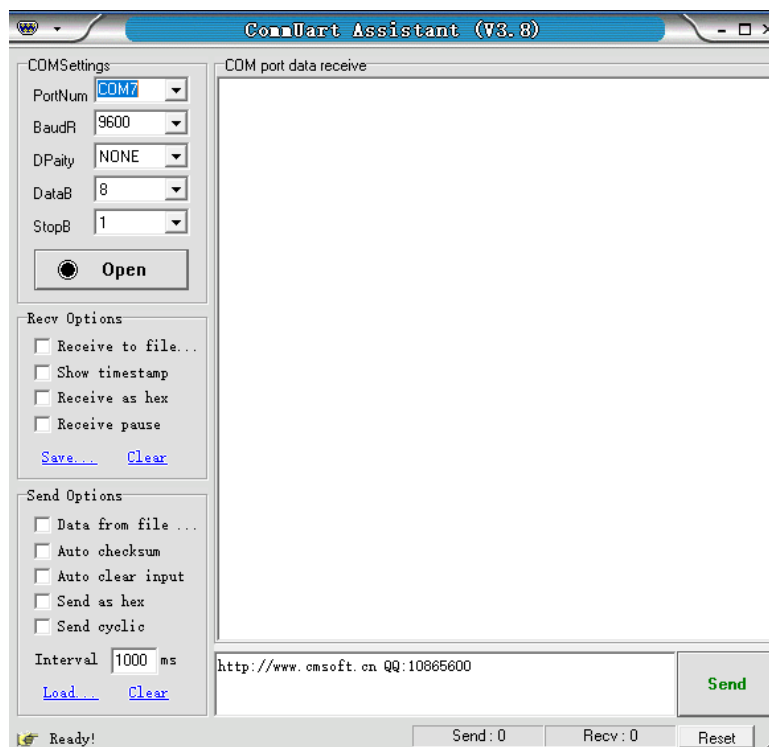

Fig.102 'UartAssist.exe' Software Interface
3. Open the folder 'Uart Driver' in your disk and double click the file UartAssist.exe. It will call out the software interface, as shown in Fig.102.